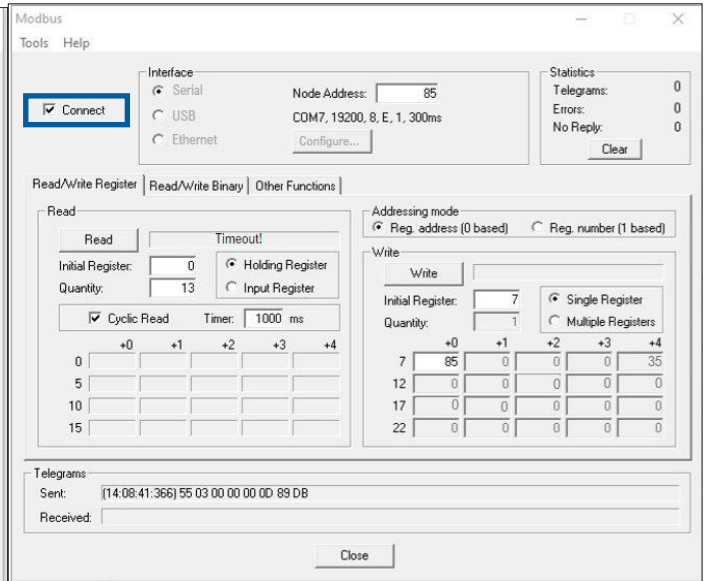

Figure 11 - Modbus connecting
- Step 4: After the above operations are completed, please select “connect” (refer to Figure 11).